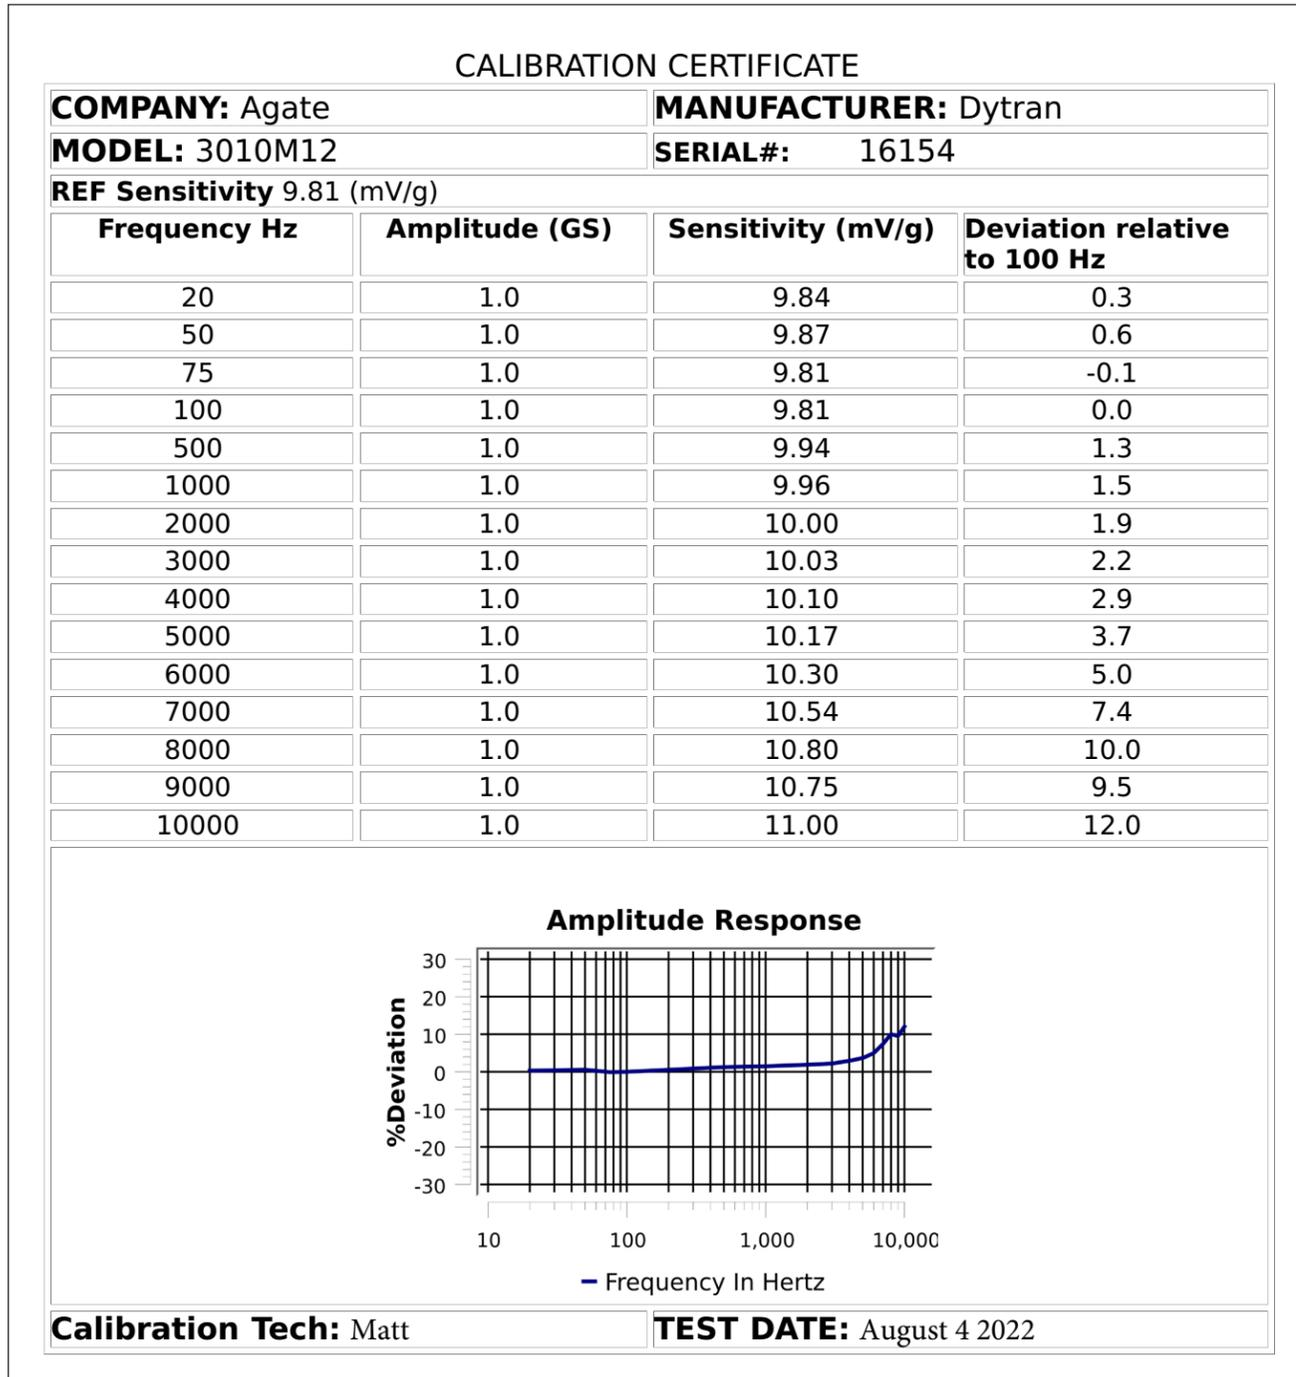

Figure 49. Example exported test record
4. Remove the USB drive and review the test(s) on your computer. See the example test record on the next page (Figure 49).
The sample certification shows the following information (Figure 49):